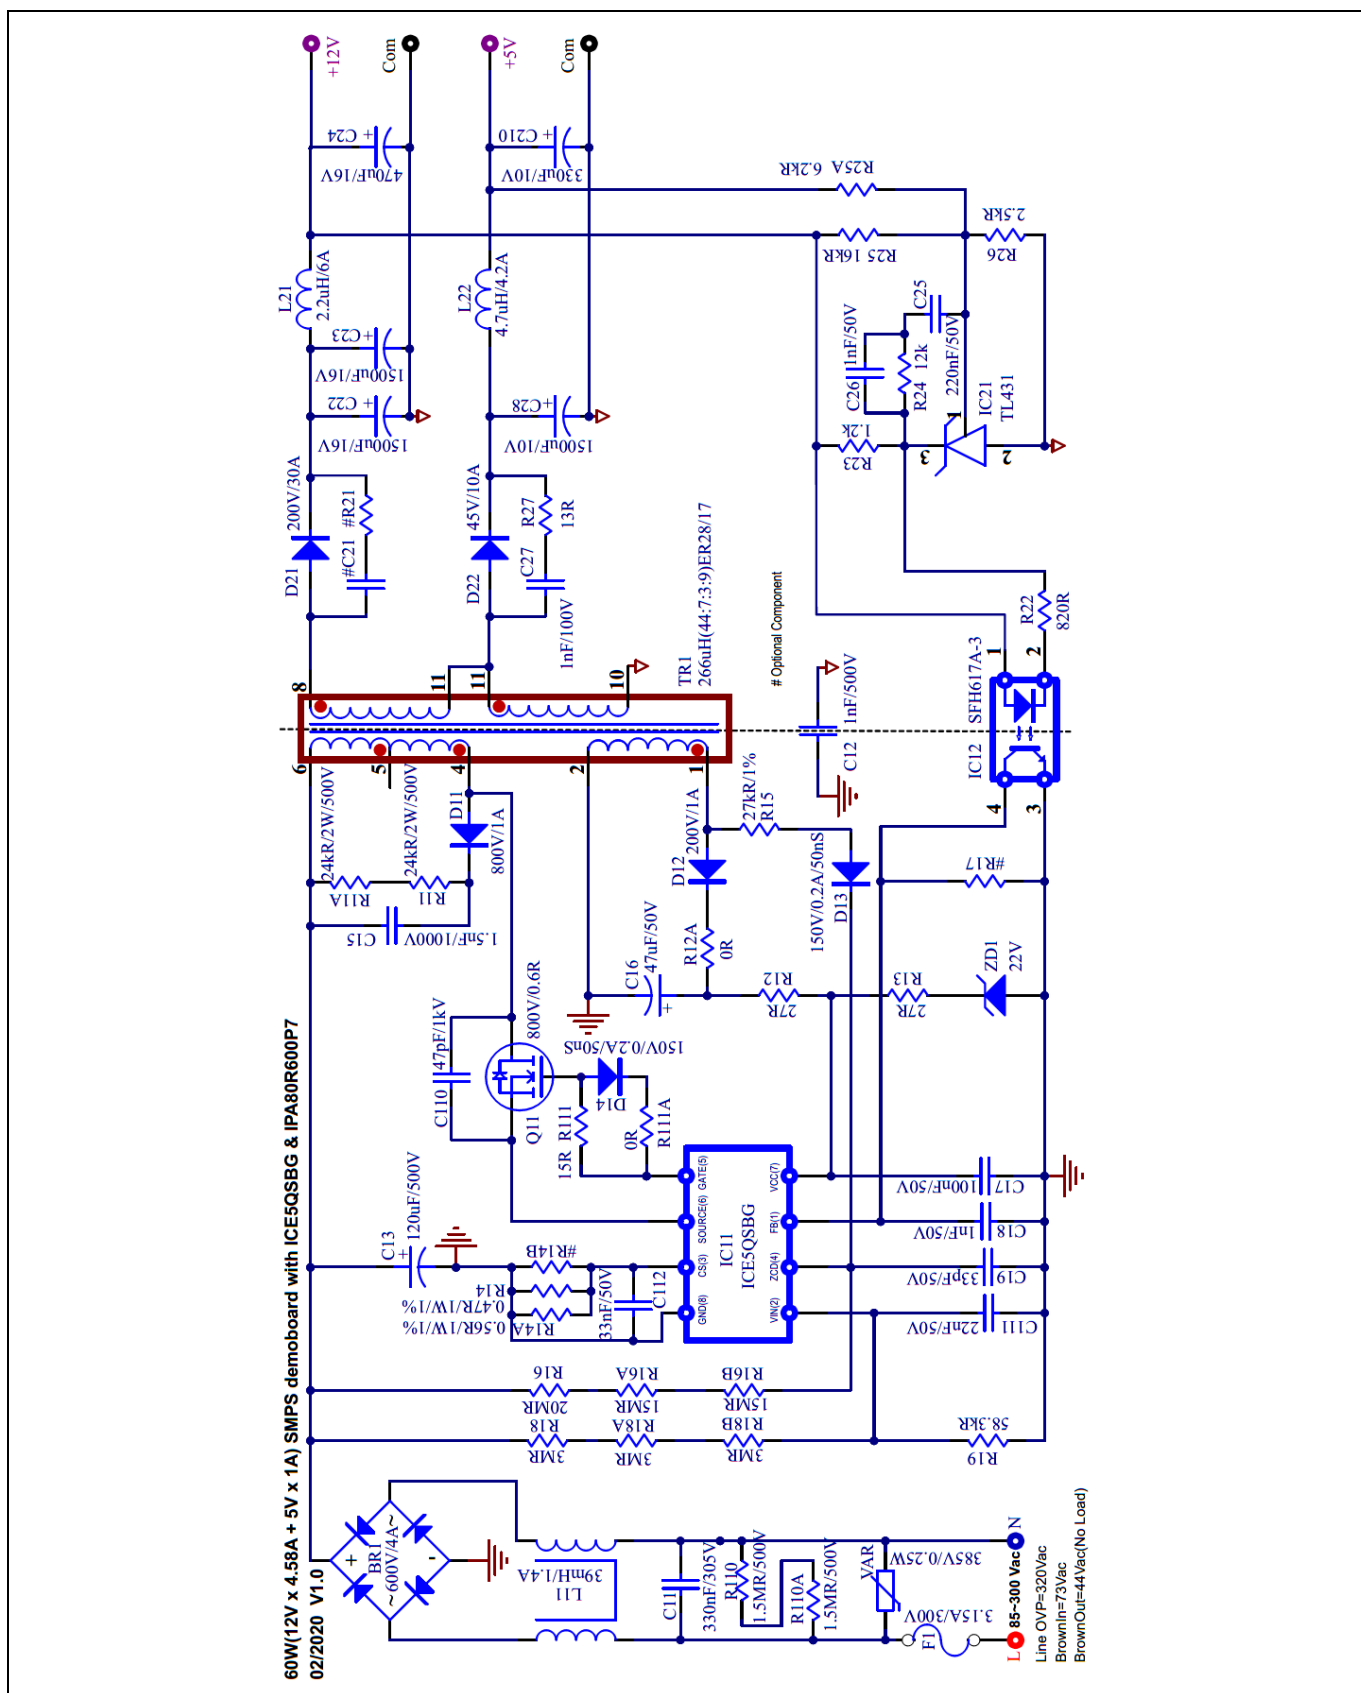
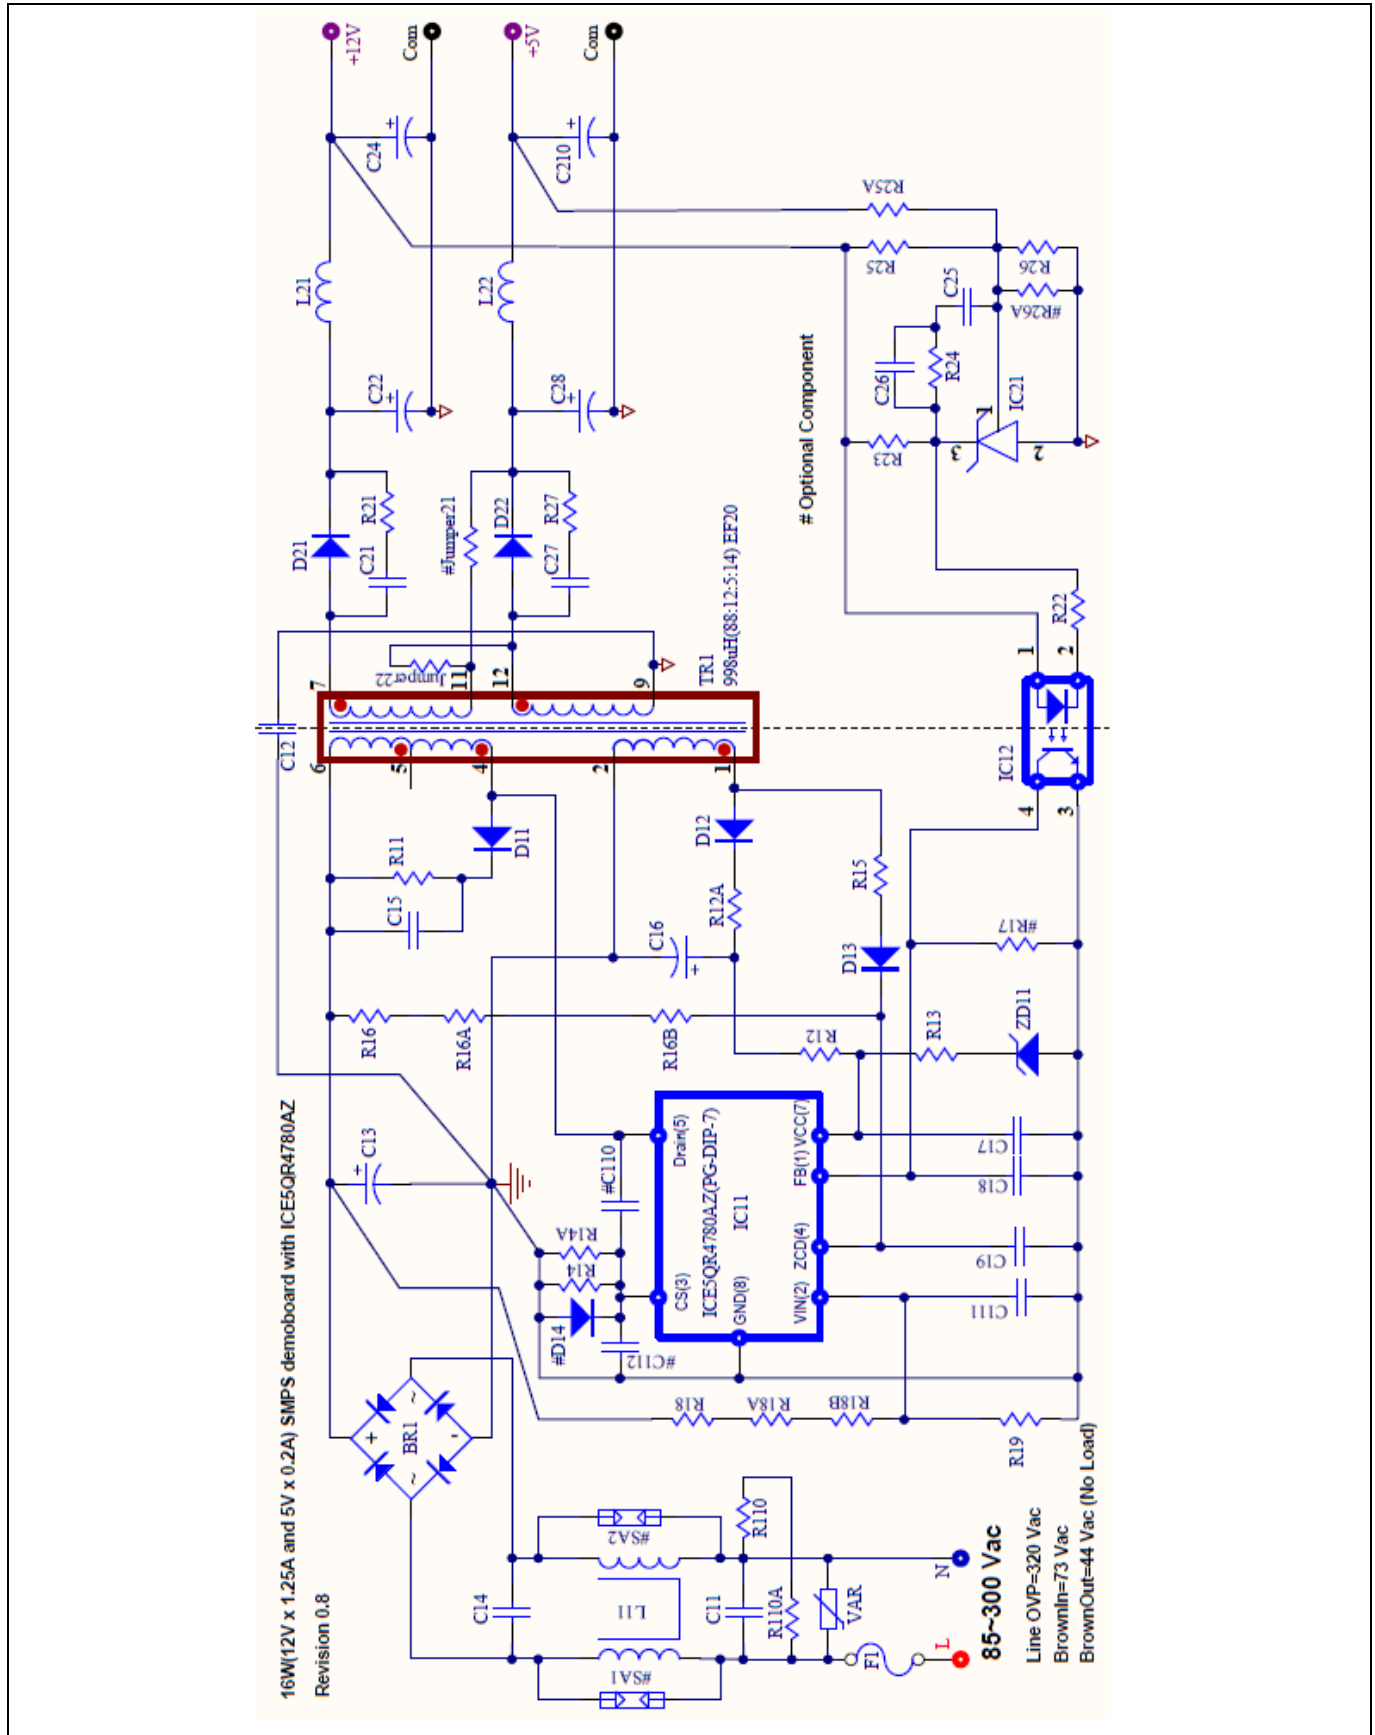

Figure 11 **Schematic of DEMO_5QSBG_60W1**
Figure 12 Schematic of DEMO_5QR4780AZ_16W1
Note: In case of higher switch-on noise at the CS pin, the IC may switch off immediately after LEB time especially at light-load high-line conditions. To avoid this, noise-filtering ceramic capacitor C112 (e.g., 100 pF~100 nF, see Figure 12) can be added.
In a power-supply system, PCB layout is key to a successful design. Following are some suggestions for this (see Figure 11 and Figure 12).
1. Minimize the loop with pulse-share current or voltage; examples are the loop formed by the bus voltage source, primary winding, main power switch (Q11 (see Figure 11) in the controller and CoolSET™ power switch CoolMOS™ inside the IC) and current sensing resistor or the loop consisting of secondary winding, output diode and output capacitor, or the loop of the V_{CC} power supply.
- ii. 700 V/800 V traces (drain pin of power switch Q11 (see Figure 11) in controller and drain pin of CoolSET™ IC11 (see Figure 12)) to nearby trace: > 3 mm.